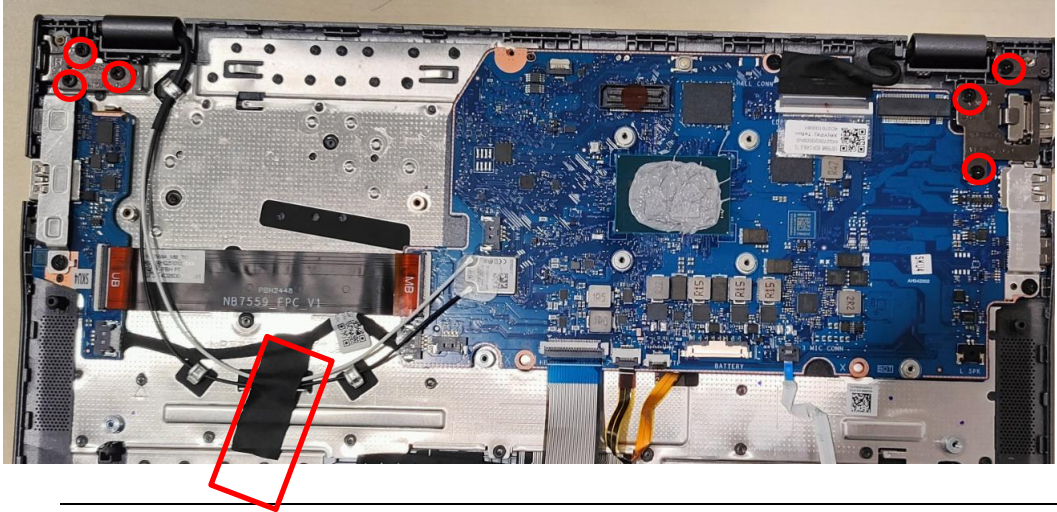

Figure 3-70. Replacing the LCD Module
1. Install six (6) screws to secure the LCD hinges in place (Figure 3-70).